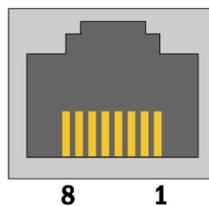

Figure 4.3 – LAN Port on RJ-45 with Pin Numbering
Figure 4.3 depicts the pin numbering on the Ethernet (Local Area Network) port based on RJ-45 connector of IO5202 device. Table 4.3 provides information on the description of each pin for RJ-45 connector. Note that this LAN port supports 10/100 Base-T(X) standards.